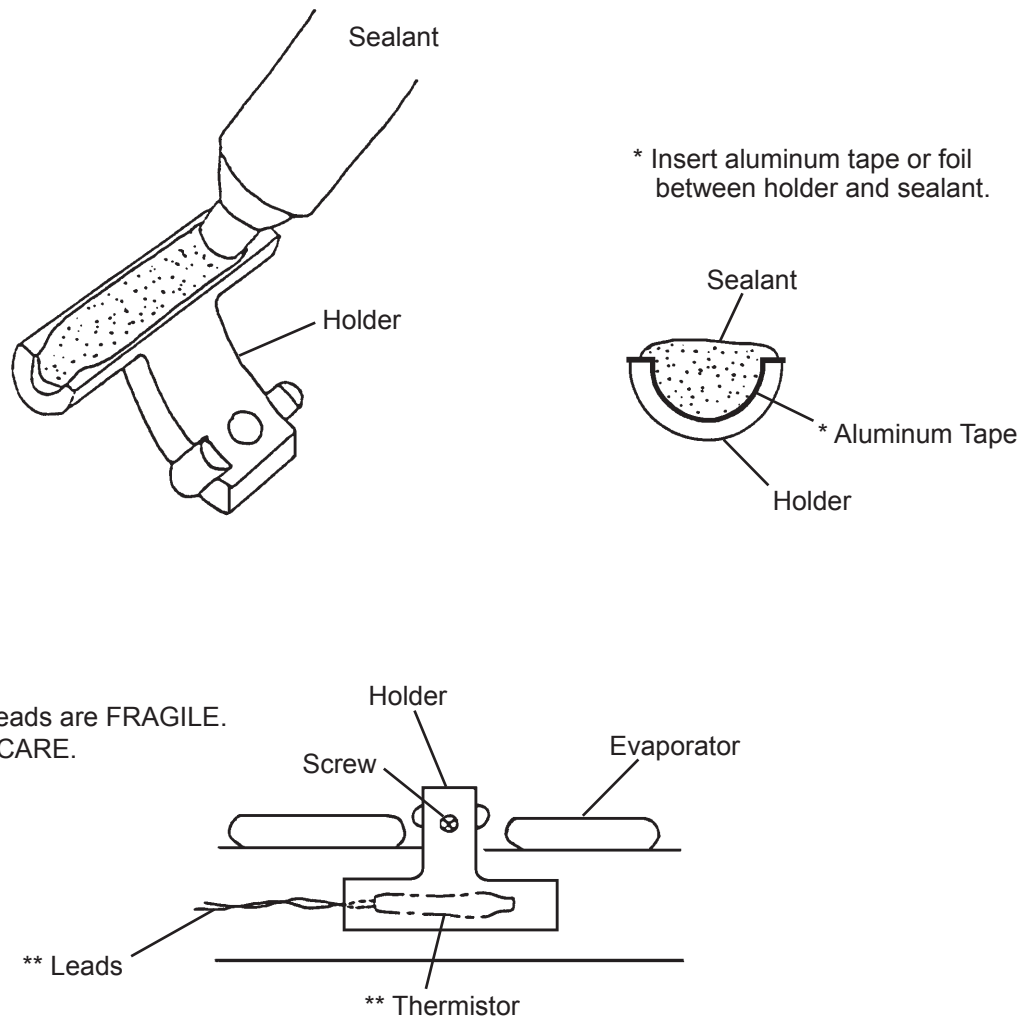

Fig. 22
- 5) Install the new thermistor in the reverse order of the removal procedure, by using a sealant (high-thermal conduct type). See Fig. 22.